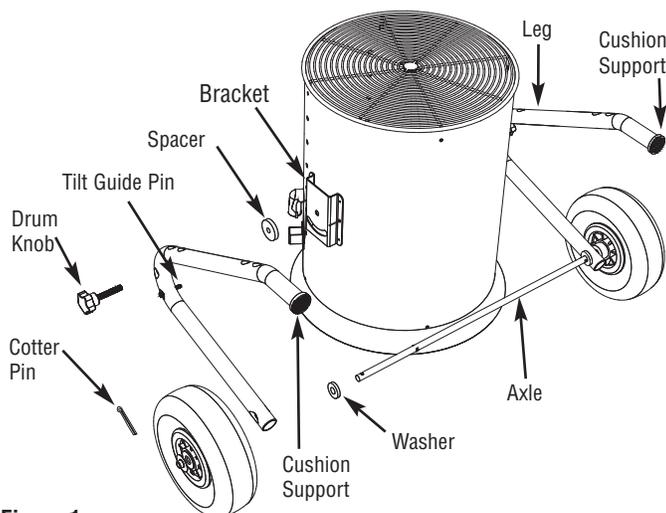

Figure 1
Support Legs and Axle Assembly (Figure 1)
- 2 Place a washer onto each end of the axle and then slide the legs over the axles until they are against the axle stops. Make sure the legs are oriented so the tilt guide pins face in (see Figure 1).